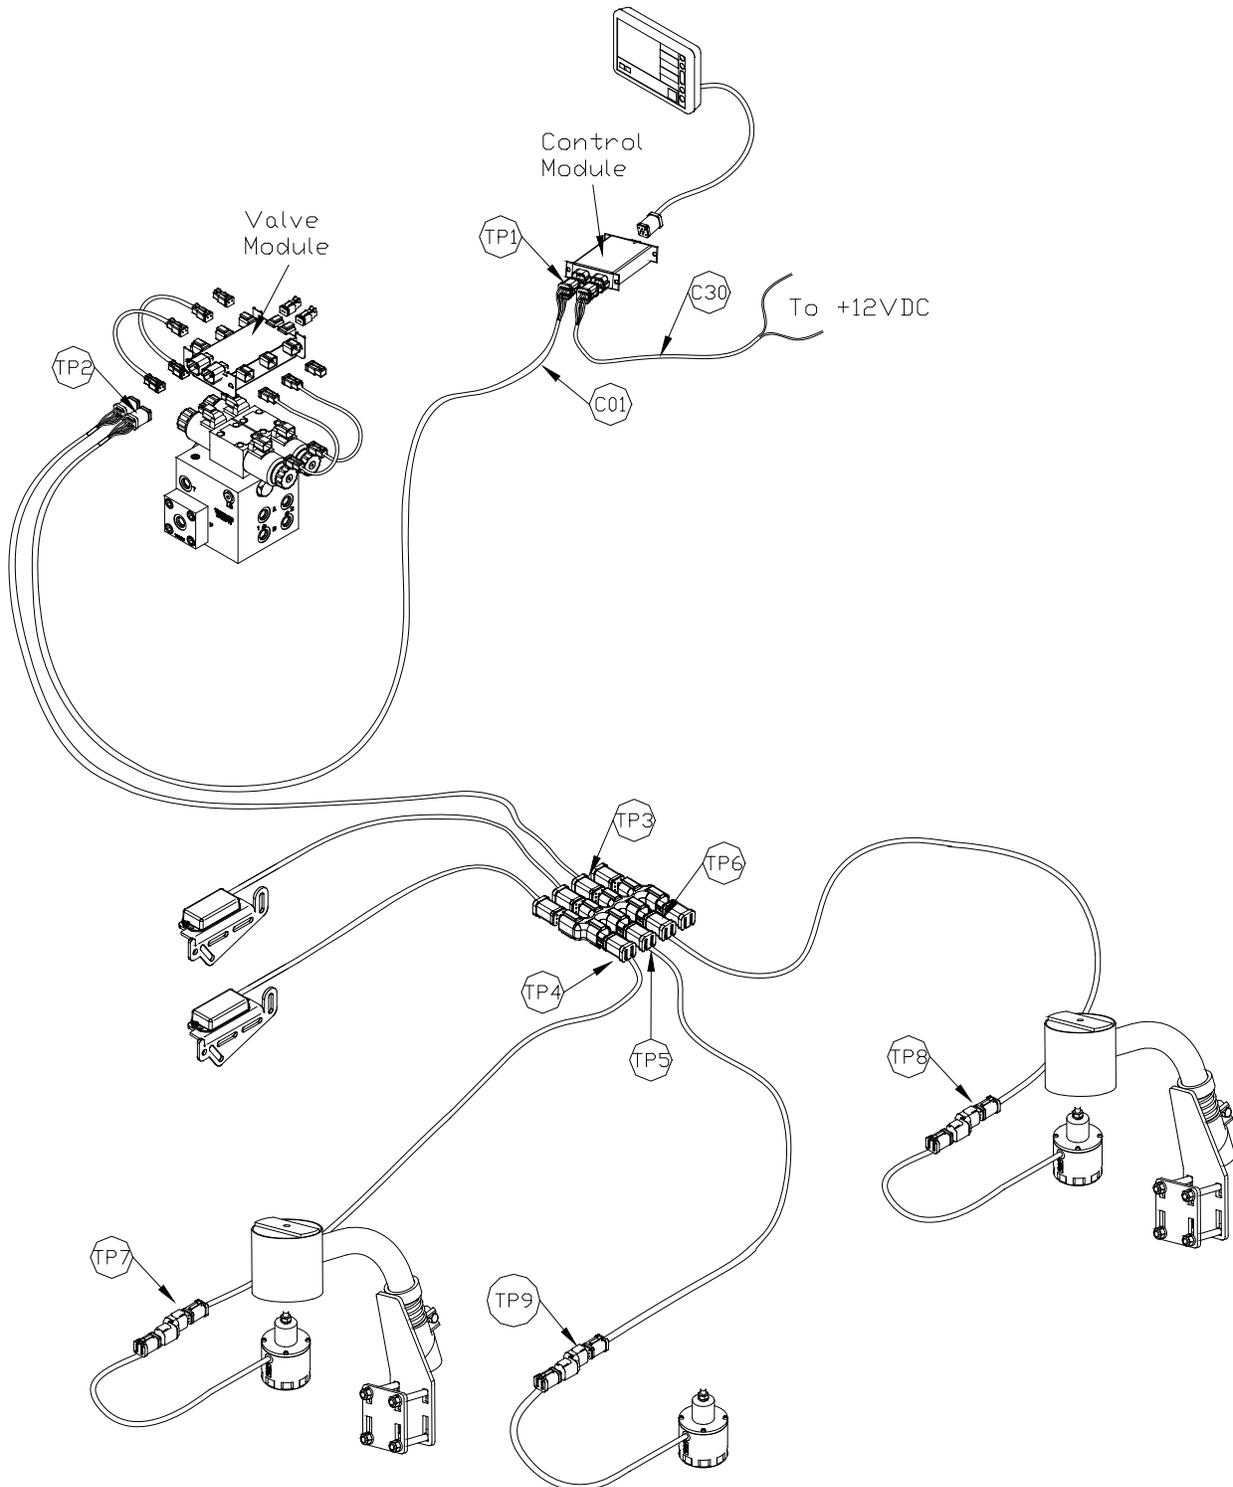

Figure 10: Test Point (TP) Examples
- Test the resistance of every pin combination with an ohm meter, on the Norac CANbus (Test Point 1, TPI - **Figure 10**). You may need to remove the wedge lock on the connector to get a good connection from the meter probe to the pin. The following table lists the values for each pin combination. The Norac bus must not have power connected to it when performing this test.
- If you measured differently than the values in **Figure 6**, continue by testing at the next connection towards the rear of the sprayer (Test Point 2, 3, 4, etc - **Figure 10**) until you isolate the problem cable.
4. Using a voltmeter, measure the voltage of the following pin combinations at each of the sensor connections (Test Point 7, 8 and 9 - **Figure 10**).
5. If you measured differently than the values in **Figure 7**, continue by testing at the next connection towards the front of the sprayer (Test Point 6, 5, 4 etc. - **Figure 10**) until you isolate the problem cable.
Figure 10 shows a typical system layout with test points labeled for troubleshooting as described earlier in this section. Please refer to the installation manual for your sprayer type for your exact system layout.